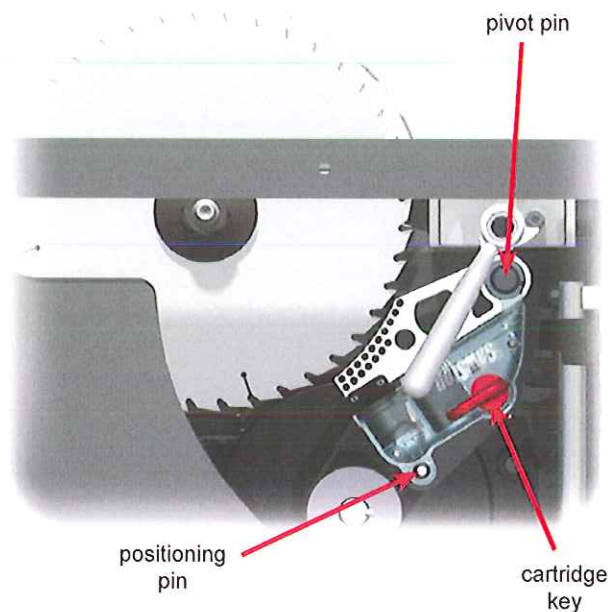
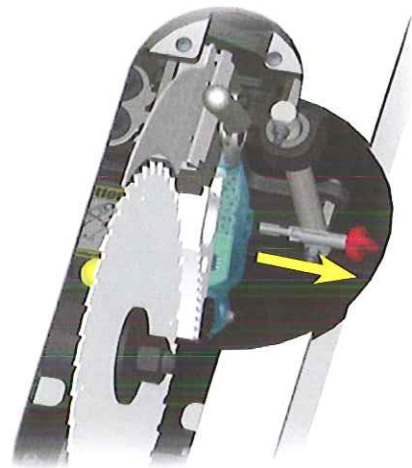
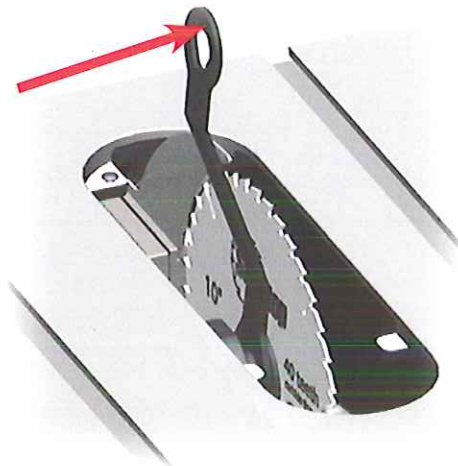
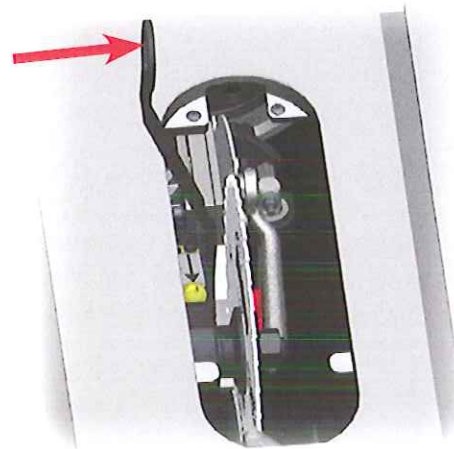

Fig. 93
Fig. 94
Fig. 96
Fig. 97
The brake cartridge is mounted on a large pivot pin and a smaller positioning pin as shown in Fig. 93. Both the pivot pin and positioning pin extend outward from a cartridge mounting bracket that sets the position of the cartridge. The cartridge mounting bracket also holds a computer cable that self-aligns to the connector in the side of the cartridge. A cartridge key is used to lock the brake cartridge in place against the cartridge mounting bracket.
To remove the cartridge, first remove the cartridge key by turning it 90° clockwise and then pulling it away from the cartridge (see Fig. 94). Set the cartridge key aside for use with the new cartridge.
If the cartridge has been activated, the brake pawl typically will be locked onto the blade or dado set. As a result, it is usually easiest to remove the blade and the brake cartridge together. To remove the cartridge and blade together, first remove the blade nut and washer, and then remove the cartridge key by turning it 90° clockwise and pulling it away from the cartridge (see Fig. 94). You can remove the blade and brake cartridge simultaneously by alternately moving the blade and then the cartridge to the right to “walk” them off the arbor and pins. Often you can “walk” them to the right by hand, but if not, you can use a blade wrench as a lever. To do this, place one end of the wrench between the blade and the side of the arbor block, being careful to maneuver around the dust shroud. Now push the blade a short distance away from the arbor flange (see Fig. 96 on the next page). **Do not place the wrench against the dust shroud because the dust shroud could break.** Next, place the end of the wrench between the brake pawl and the cartridge mounting bracket to gently pry the cartridge away from the arbor block a short distance (see Fig. 97 on the next page). Only move the blade and cartridge a short distance each step, for example, a distance equal to one or two threads on the arbor. Otherwise the brake cartridge may bind on the arbor and pivot pin. Repeat these alternating steps to walk the cartridge and blade off. A significant force may be needed to pry the cartridge off the mounting pin if the brake pawl deformed and pinched the pivot pin when it stopped the blade.
To install a brake cartridge, the above process is reversed. Align the mounting holes in the cartridge with the pivot pin and positioning pin in the saw (see Fig. 93 on page 59). Slide the cartridge onto the pins until the cartridge rests against the mounting bracket. The cartridge will automatically align with a computer cable mounted in the saw.
Next, insert the cartridge key into the hole in the cartridge housing (see Fig. 94 on page 60). The key shaft has a ridge that must be aligned with a channel in the hole. As a result, the key can only be inserted into the hole when the red handle is pointing toward the brake pawl (as shown in Fig. 94 on page 60). Insert the key fully into the hole and rotate the key 90° counter-clockwise to lock the cartridge in place (Fig. 93 on page 59 shows the key in its locked position). The key will not rotate unless it is fully seated against the side of the cartridge housing and the cartridge housing is pressed against the cartridge mounting bracket.